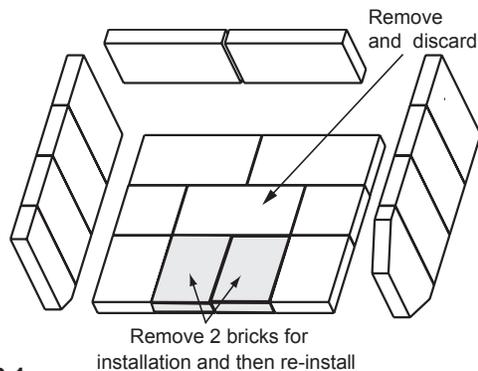

Figure 20.1
2. Remove the 2 bricks in the front most part of the firebox (**Figure 20.1**).
2. Remove the 2 bricks in the front most part of the firebox (Figure 20.1 on page 20).